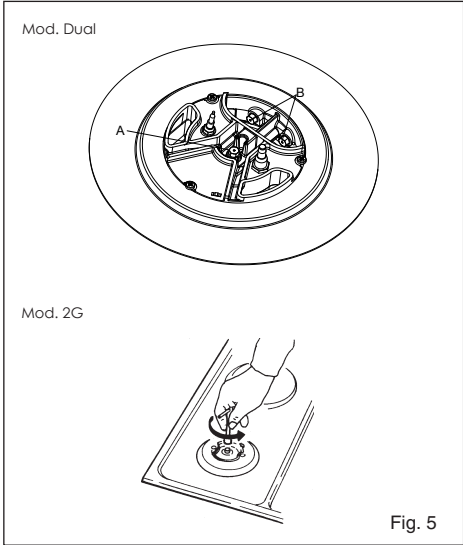

Fig. 5
### Adaptation to various types of gas (Fig. 5)
- replace the injector (Fig. 5) with the corresponding type of gas to be used (see table "User characteristics");